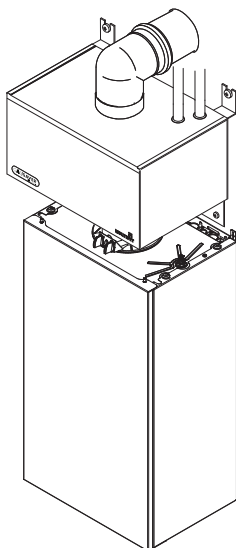

Fig. 7
7. The flue system can now be installed (Fig. 7) and commissioning completed. The flue adaptor on top of the GasSaver is the same as that on the boiler.